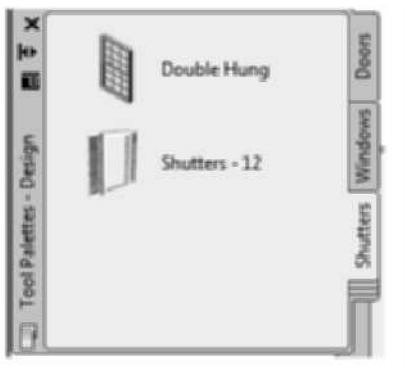

FIGURE 5.49 Creating a shutters window tool
15. Verify that the Shutters palette is current (Figure 5.49). Right-click over the shutters palette, and choose Delete Palette.